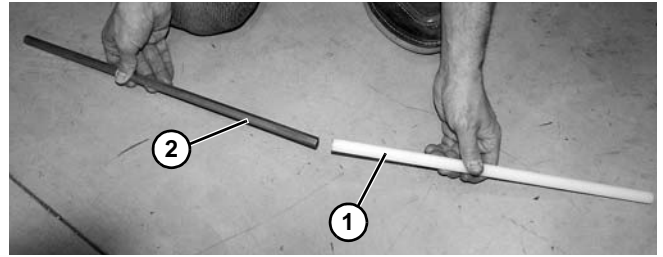

Figure 49
13. Remove shaft cover (Figure 49, item 1) from shaft (Figure 49, item 2).